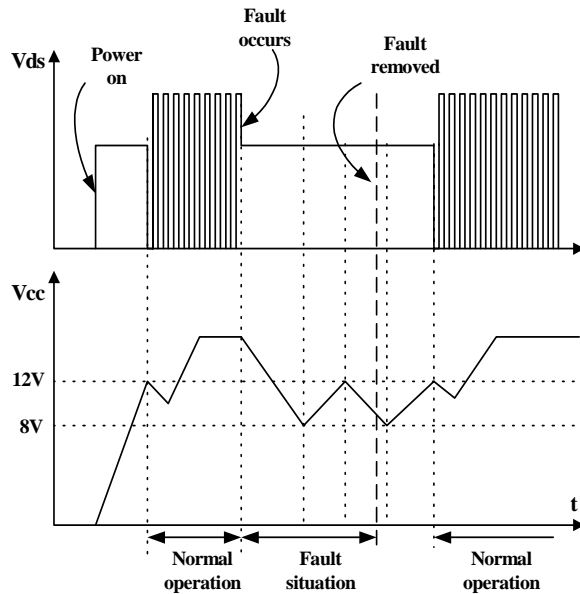

Figure 6. Auto restart operation
3. Protection Circuit : The FSDM07652RB has several self protective functions such as over load protection (OLP), over voltage protection (OVP) and thermal shutdown (TSD). Because these protection circuits are fully integrated into the IC without external components, the reliability can be improved without increasing cost. Once the fault condition occurs, switching is terminated and the Sense FET remains off. This causes Vcc to fall. When Vcc reaches the UVLO stop voltage, 8V, the protection is reset and the internal high voltage current source charges the Vcc capacitor via the Vstr pin. When Vcc reaches the UVLO start voltage, 12V, the FSDM07652RB resumes its normal operation. In this manner, the auto-restart can alternately enable and disable the switching of the power Sense FET until the fault condition is eliminated (see Figure 6).